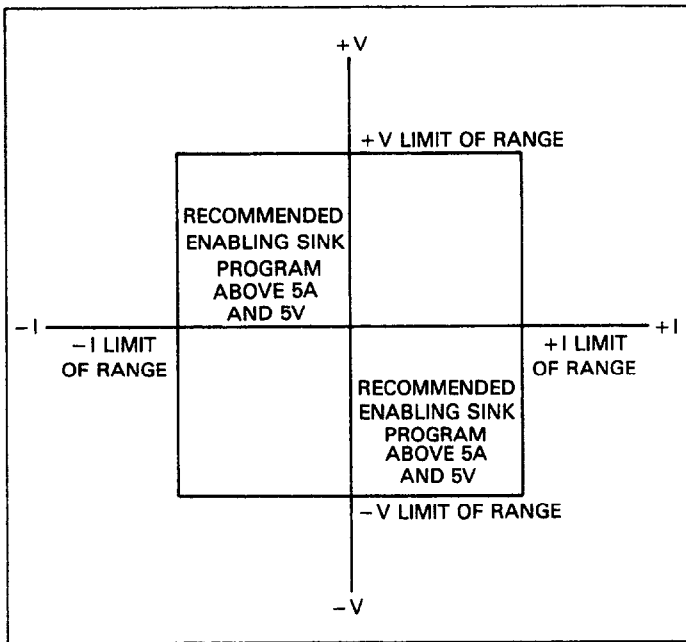

Figure 3-12. Model 228 Recommended Operating Limits
to the Model 228 by an external source. As can be seen by the graph and/or Figure 3-12, when voltage and current both have the same sign (positive or negative), the Model 228 is in the source mode.
If the voltage or current have different polarity, then the Model 228 is in the sink mode. In the sink mode, the Model 228 accepts power (dissipates) instead of providing the power. Operating the Model 228 as an active load dissipates power up to the limits shown in Figure 3-12. Of course, the limits shown in Figure 3-12 must not be exceeded.
When the Model 228 is used in the sink mode, that is, power is delivered to the Model 228 by an external power source. Care should be taken to limit the power delivered to the Model 228 as shown in Figure 3-12. If power dissipated within the Model 228 exceeds these limitations, overheating and damage to the instrument may occur. For example, if the external power source is capable of delivering greater than 1A, then the voltage across the Model 228 output terminals must be less than 100V (100V x 1A = 100W).
3. Program the desired current value. In this example, the current is programmed as positive. The external source determines whether the Model 228 acts as a source or an active load. Refer to Figure 3-12 and/or the front panel COMPLIANCE graph.